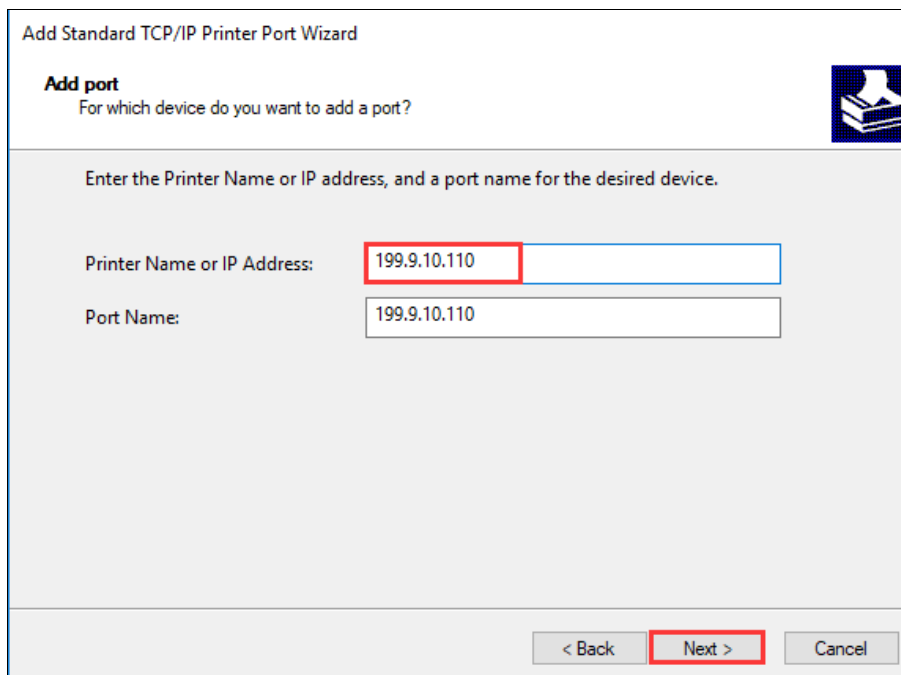

Figure 2-39 Add Port Screen
- 7. On the “Add Port” screen, enter the IP Address of the printer (Note: the IP address here must be consistent with the IP address of the printer that has been set, and the port name will be generated automatically), and then click “Next”, as shown in Figure 2-39.